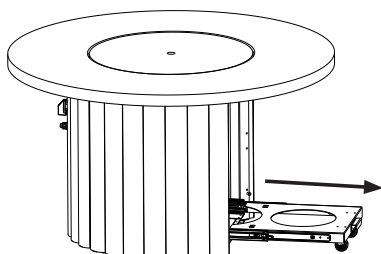

Figure E.1
1. Lift off the access door of base and set aside. Pull out tank tray. See Figure E.1.